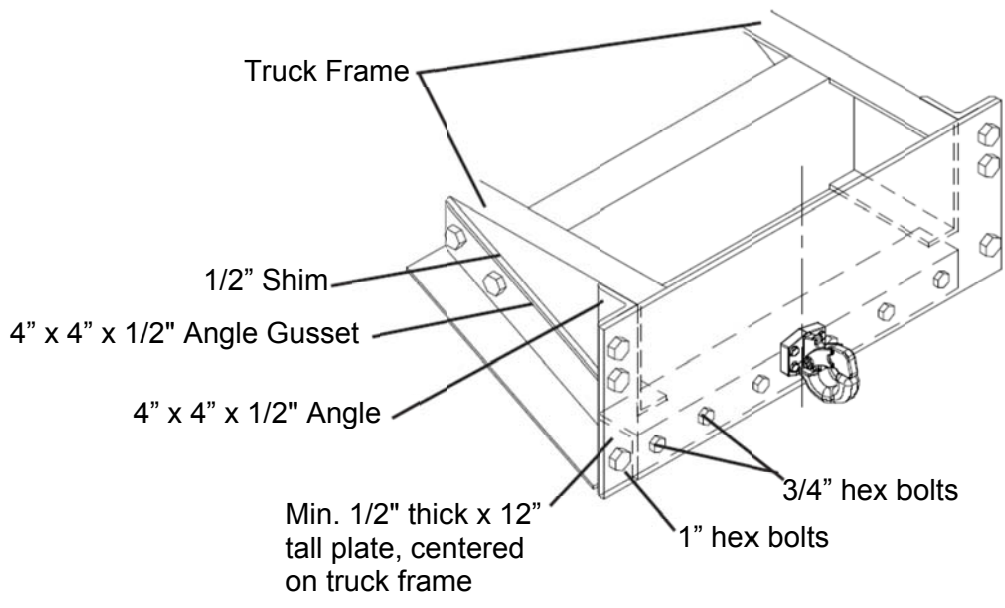

**Figure 37**
1. Start by cutting two 4" x 4" x 1/2" angles to the height of the rear plate (See Figure 37).